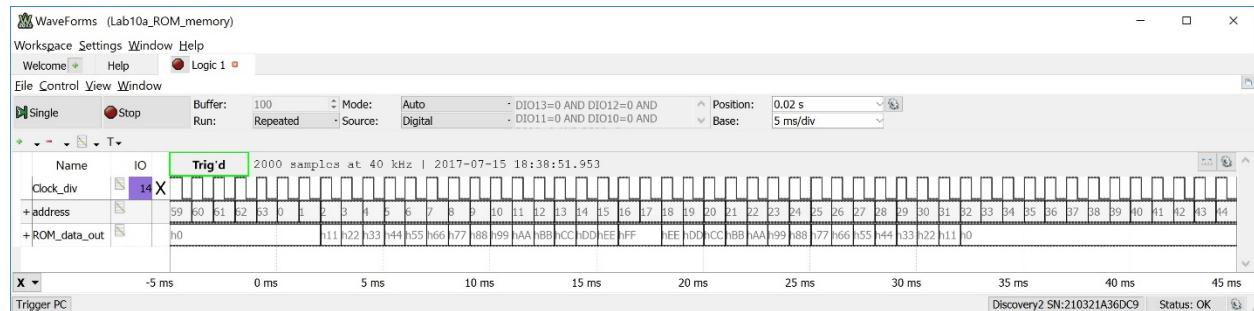

Figure 10.5
On the DE10-Lite board, set the frequency of your counter to **1 kHz** using the SW(1) and SW(0) switches. While there are a variety of settings that will need to be configured, go ahead and click on the “Single” button to take a measurement. After the measurement, you will see values for address, ROM_data_out, and Clock_div. Set the Position to 0.02 s and the Base to 5 ms/div. Set the trigger to address="000000". Run the logic analyzer continuously. You should see the contents of the ROM being read out. Your measurement should look like Figure 10.5.